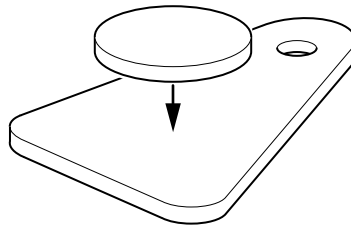

Fig. 6
- (b) Fig. 6 shows an acrylic shape which is to be added to the key tag.